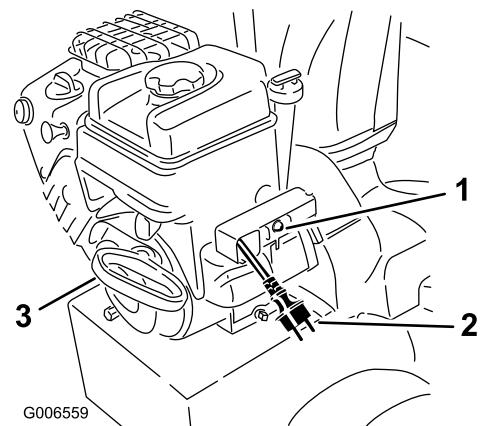

Figure 30
7. Start the machine pulling the recoil starter or pressing the electric-starter button (all models except 38597) (Figure 30).